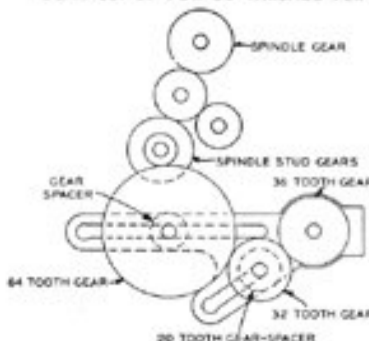

Fig. 2—36 threads per inch
**GEAR SET-UP FOR 36 THREADS PER INCH** (See Figure 2)